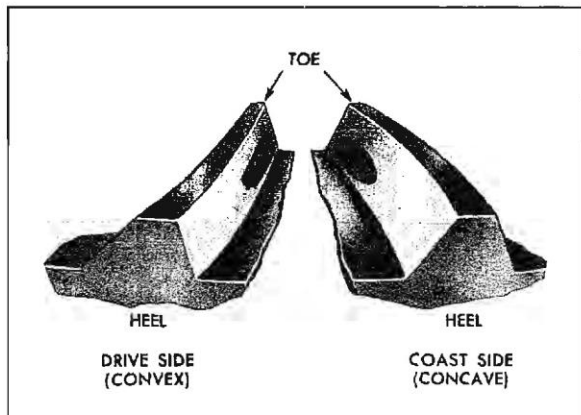

Fig. 4-17 Desired Tooth Contact Under Light Load
5. Observe pattern or ring gear teeth and compare with Fig. 4-17.
When "load" on ring and pinion gear is increased, such as when car is accelerated from standstill or from normal drive, the tooth contact will tend to spread out, and under very heavy load will extend from near toe to near heel. The entire contact also tends to shift toward heel under increasingly heavier loads and will become somewhat broader with respect to tops and bottoms of teeth. The patterns obtained by red lead tests, dependent upon degree of "loading", approximate a normal light load. For this reason, they will not cover the entire face of the ring gear, but will extend only about halfway (Fig. 4-17). The important thing to note is that the contact pattern is centrally located up and down on the face of the ring gear.